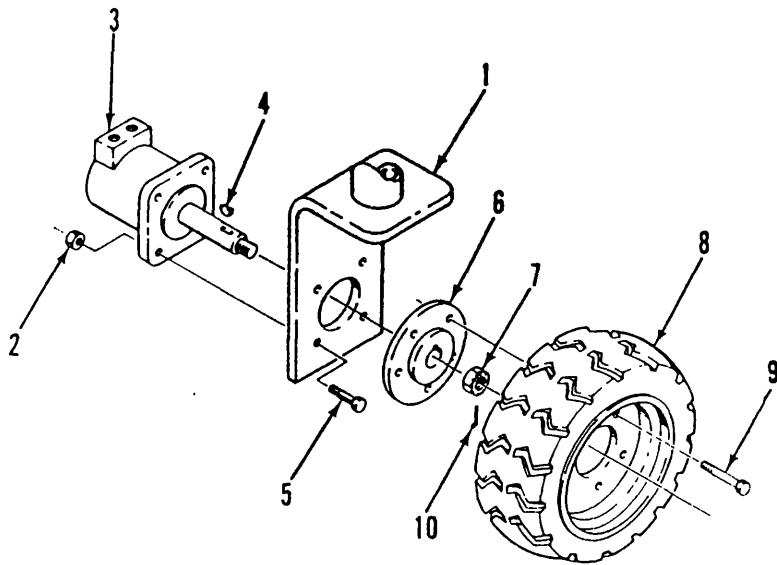

Figure 5-11. Drive Motor Removal
a. Removal (Figure 5-11).
(1) Park the work platform on firm level ground then block the wheels to prevent the work platform from rolling.
(1) Refer to Figure 5-11 and position the drive motor (3) on the spindle (1) and secure with capscrews (5) and locknuts (2).
(2) Remove the plugs from the hose assemblies and connect to the drive motor (3).
(3) Install the shaft key (4), hub (6) and locknut (7). Torque the locknut to 350 to 400 ft. lb. Install the cotter pin (10).
(4) Install the wheel (8) with capscrews (9) onto the hub (6). Torque to 40 ft. lb.
(5) Lower the jack and remove. Operate the drive system and check for leaks.